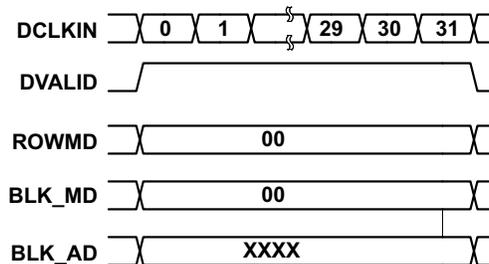

图 11. No-Op Row Cycle (DLP7000 example)
A Row No-Op is a row cycle in which setting ROW_MD = "00" commands the DLPC410 that within the current row cycle, no **Row Write** operation is to be performed. A Block No-Op is a row cycle in which BLK_MD = "00" commands the DLPC410 that within the current row cycle no **Block** Operation is to be performed. Row No-Ops can be inserted when only block operations are desired, Block No-ops can be inserted when only Row Write operations are desired, or both Row No-Ops and Block No-Ops can be performed at the same time when neither type of operation is desired (as shown in 图 11). No-Ops are frequently inserted in the stream of data and commands when delays are desired to complete on-going operations to avoid violating delay requirements.
- This is accomplished by asserting DVALID while holding ROWMD = "00" and BLKMD = "00" for the pre-requisite number of CLKS per ROW (表 11) clock cycles, as in 图 11. If no other blocks need to be loaded then continuous No-Op row cycles are applied as in 图 11 .